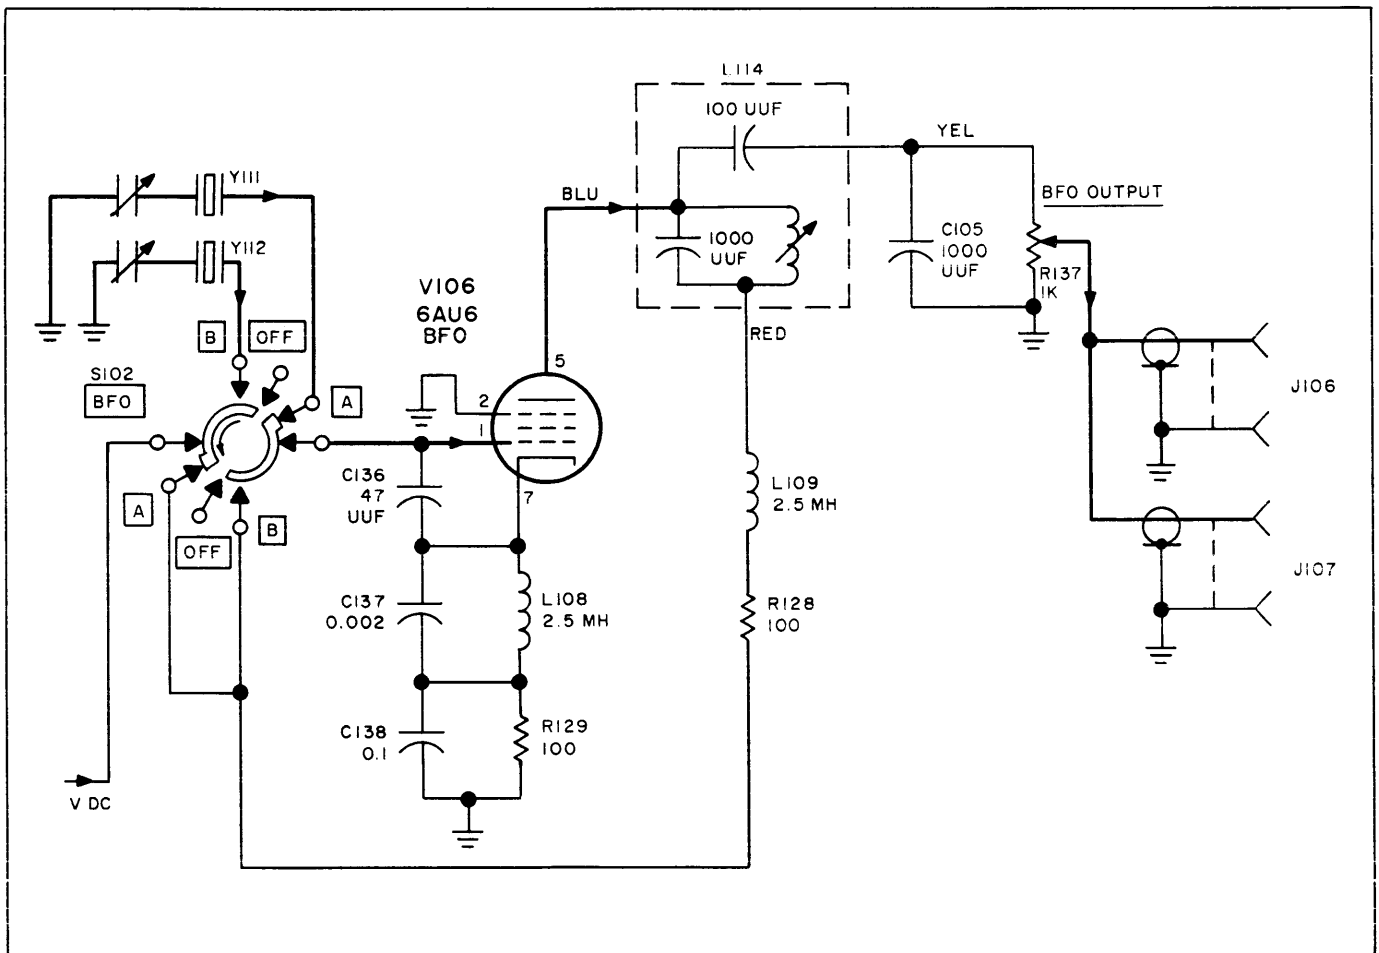

Figure 4-7. Simplified Schematic of BFO Circuitry
a. CIRCUIT ANALYSIS. (See figure 4-7.) - The BFO circuitry consists of BFO tube V106, crystals Y111 and Y112, and BFO switch S102. The exact operating frequencies of the BFO depend on the type crystals used in the circuitry. Typical frequencies are 452 kc and 458 kc.